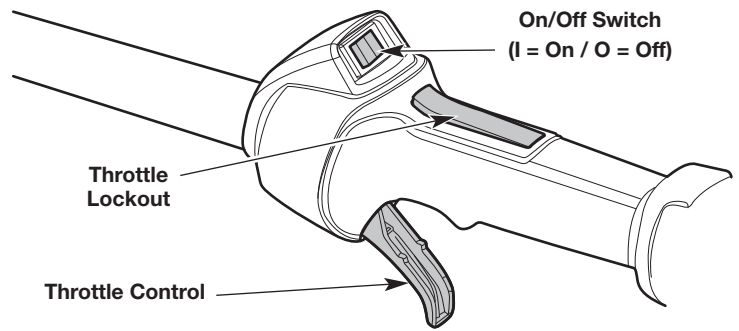
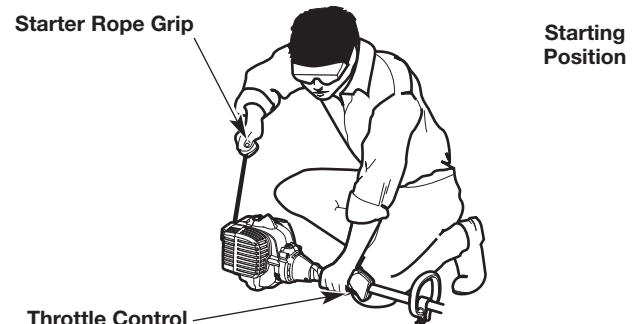

Fig. 17
Fig. 19
WARNING: Avoid accidentally starting the unit. To avoid serious injury, the operator and the unit must be in a stable position when pulling the starter rope (Fig. 19).
NOTE: There is no need to turn the unit on. The On/Off switch is in the **On (I)** position at all times (Fig. 17).
4. Crouch in the starting position (Fig. 19).
5. Press and hold the throttle lockout. Squeeze and hold the throttle control (Fig. 17). Pull the starter rope with a controlled and steady motion **5 times** to start the engine (Fig. 19).
2. Press and hold the On/Off switch in the **Off (O)** position until the engine comes to a complete stop (Fig. 17).
- NOTE:** There is no need to turn the unit on. The On/Off switch is in the **On (I)** position at all times (Fig. 17).
6. Press and hold the throttle lockout. Squeeze and hold the throttle control (Fig. 17). Run the Speed Start™ accessory in intervals no longer than 2 seconds each until the unit starts.